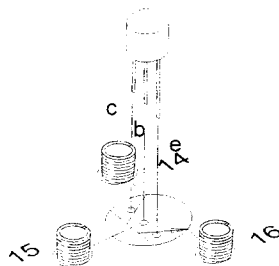

Figure 7
Now, look at the Transistor, with the flat side toward you as shown in Figure 7.
Make a mental note of the position of each lead, E, C and B. (See Figure 7.)
- Mount a Transistor marked 9014 between 14, 15 and 16. **Position it so the flat side is away from spring 15.** Insert the leads through the holes provided. On the bottom, connect the upper lead to 14, the center lead to 15 and the lower lead to 16. (See Figure 7 and 8.)
1. Be sure the transistor leads are connected properly. Study Figure 7 once more and be sure each lead goes where it should.